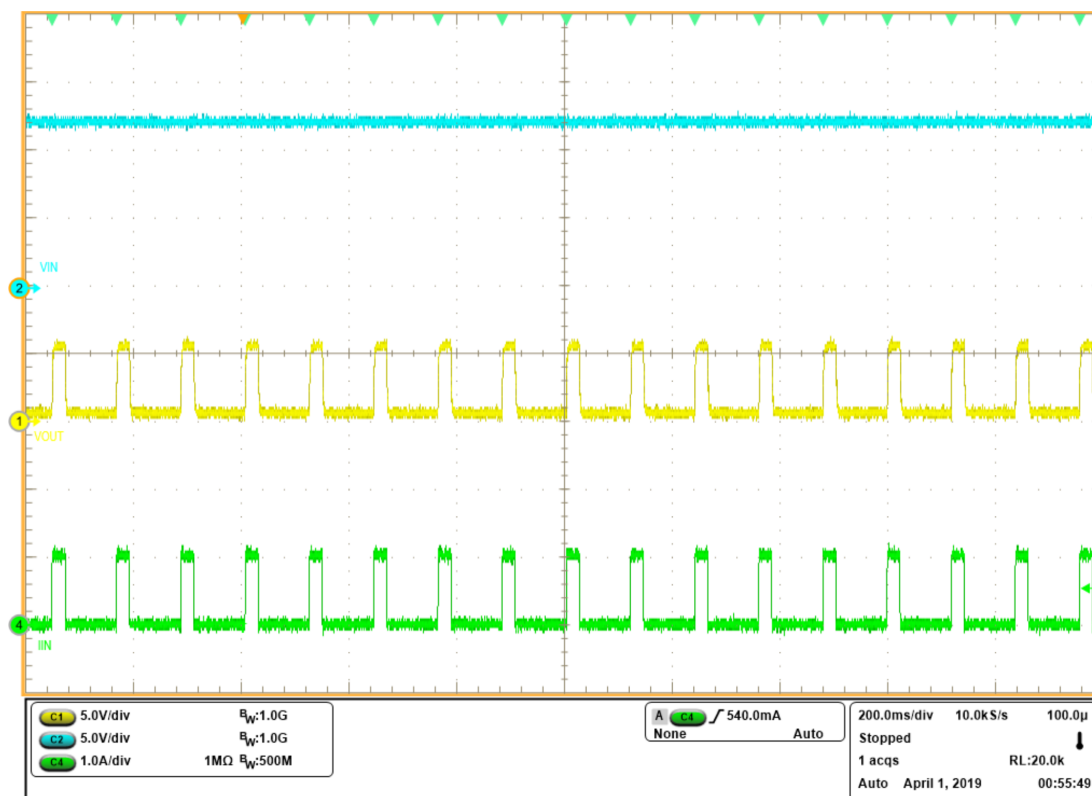

Figure 3. J4 = 3-4, Current Limit (1.0 A) Test Auto Retry (CH1)
3. Set the output load at 5.0 $\Omega \pm 0.5 \Omega$ on CH1 and then enable the load. Turn on the VIN1 power supply and verify that input current is limited, as per the setting in the Table 9. Verify the device is in auto-retry mode and that the FLTB1 RED LED (D3) turns on and off as shown in Figure 3. The level of the current pulse should match with the load current limit (based on the respective jumper setting), as shown in Table 9.